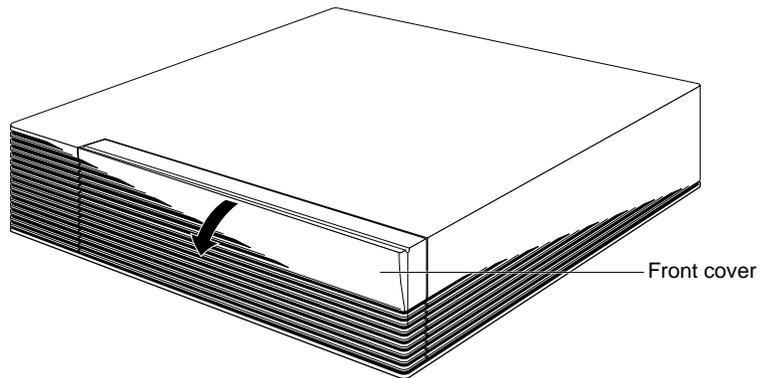

Figure 2 Opening the front cover from the Indigo² chassis.
- Open the front cover by snapping it away from the top edge of the chassis and tipping it down, as shown in Figure 2.